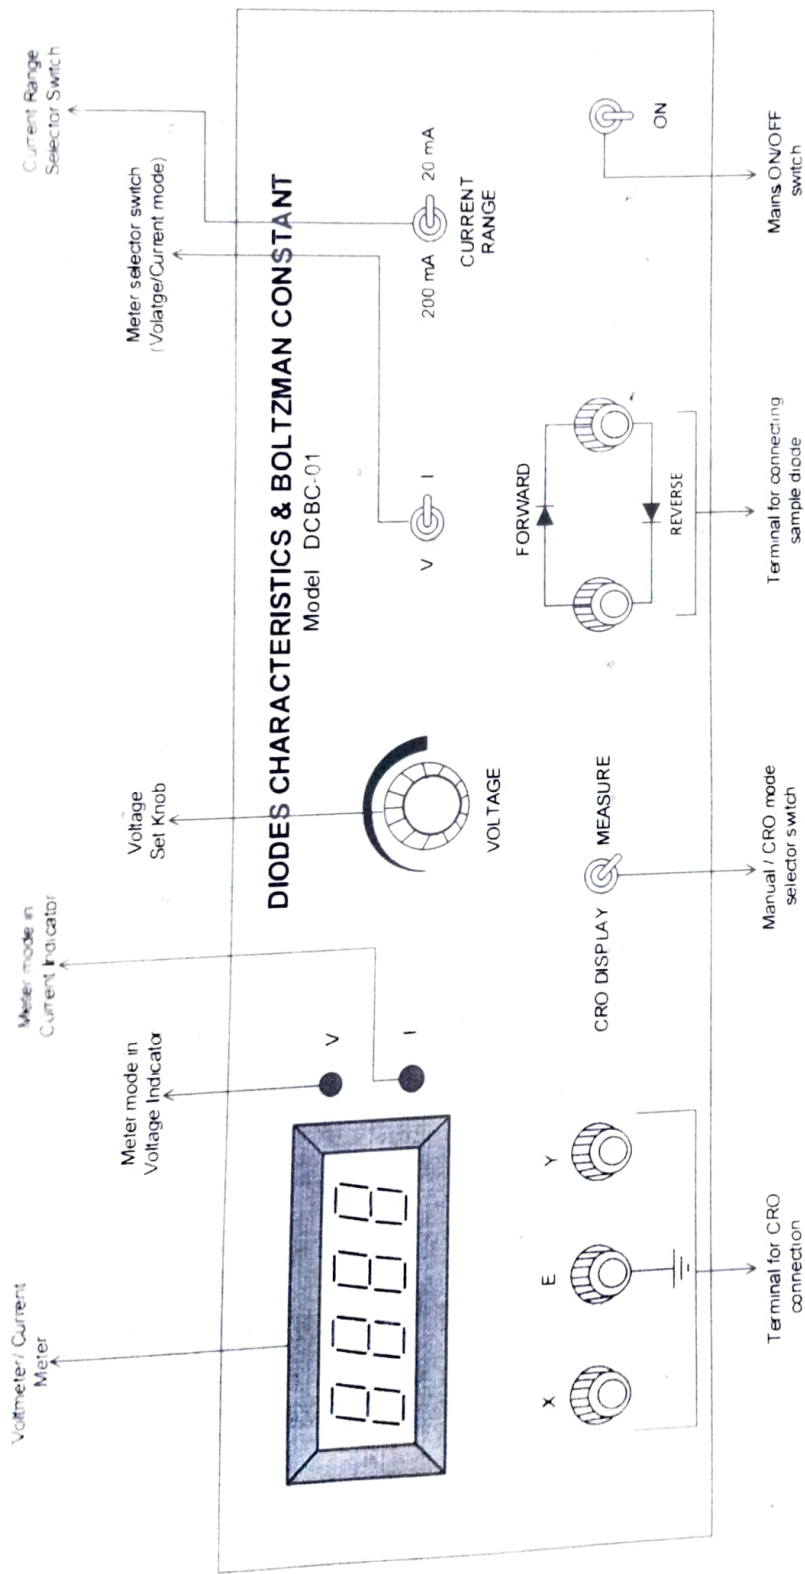

Fig 5: Panel diagram of Study of Diode Characteristics & Boltzman Constant, DCBC-01
- Connect the diode in the forward or reverse direction as desired. (See layout Fig. 5)